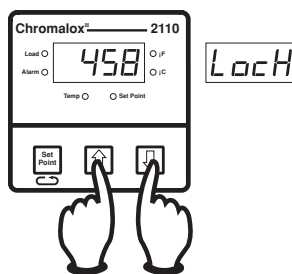

Figure 4.3
1. Press and hold the \uparrow and \downarrow buttons. After three seconds the display will begin to toggle between the current security code and **LoCH** (LOCK). The Temp and Set Point LEDs will turn on. See Figure 4.3.